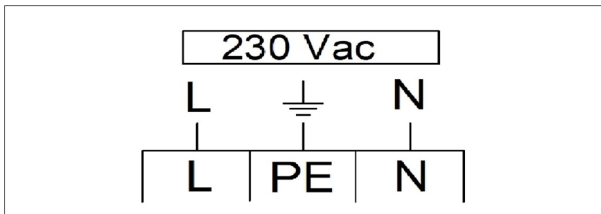

Figure 7 - The air heater's connection clamps
- Connect the wires of the mains cable to the clamps in the connection box (figure 7).